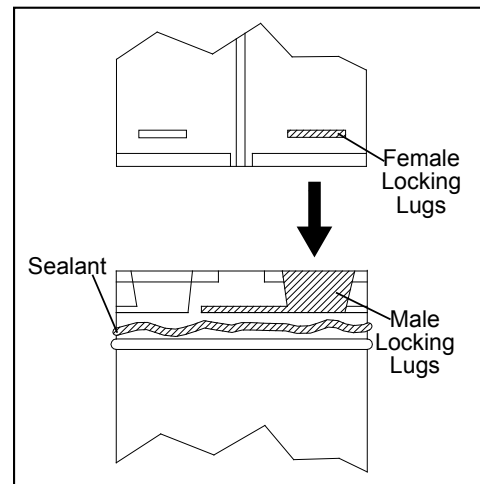
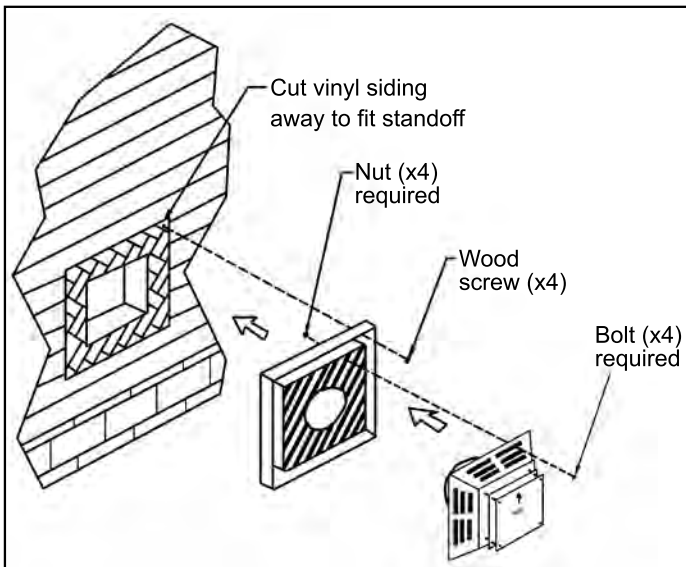

Figure 31: Twist-Lock Connection.
Figure 34: Installing Vent Cap with Vinyl Siding Stand-Off.
the outside, on black pipe. They may be located by examining the inside of the female ends as shown in Figure 31.
(b) For buildings with vinyl siding, a vinyl siding standoff, should be installed between the vent cap and the exterior wall (see Figure 34). Attach the vinyl siding standoff to the horizontal termination. The vinyl siding standoff prevents excessive heat from possibly melting the vinyl siding material. Note that the horizontal vent termination bolts onto the flat portion of the vinyl siding standoff (shaded area in Figure 31), so that an air space will exist between the wall and the vent termination.
6. Once the pipe sections have been joined, and run up through the hole in the roof, slip an elbow strap over the exposed sections, bend the support straps outwards, and push the elbow strap down to the roof level, as shown in Figure 34. Tighten the clamp around the pipe section. Use a level to make sure the pipe is truly vertical. With roofing nails, secure the support straps to the roof. Seal the nails holes heads with non-hardening mastic. Trim the excess length of the support straps that extend out beyond the edge of the flashing.